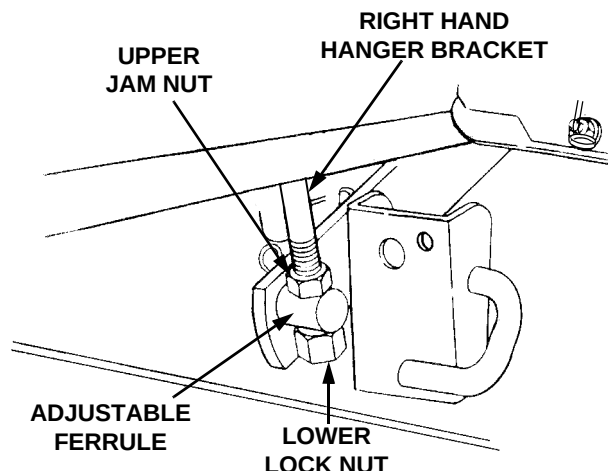

Figure 53
7. Side-to-side leveling is obtained utilizing the adjustment ferrule and right hand hanger bracket (Refer to Figure 53).
- Loosen the upper jam nut on the hanger bracket and turn away from the adjustment ferrule. Turn the lower lock nut upward (tighten) on the threads of the hanger bracket to raise the right side of the mower deck. Turn the lock nut down (loosen) on the threads to lower the right side of the mower deck (Refer to Figure 53).